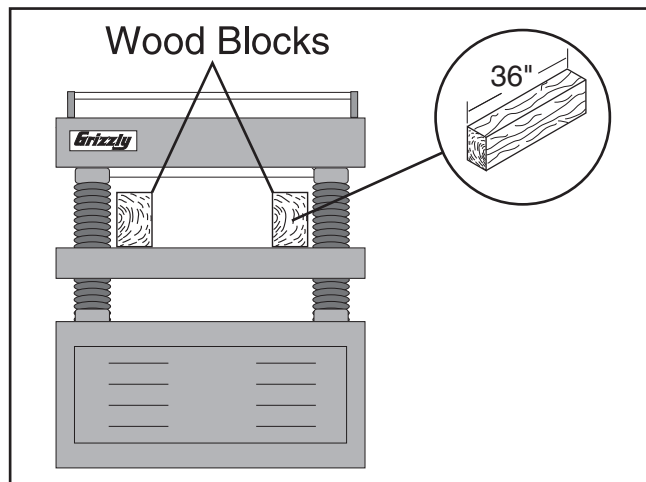

Figure 47. Wood blocks properly positioned on the planer table.
5. Place the wood blocks along the sides of the table, as illustrated in **Figure 47**.